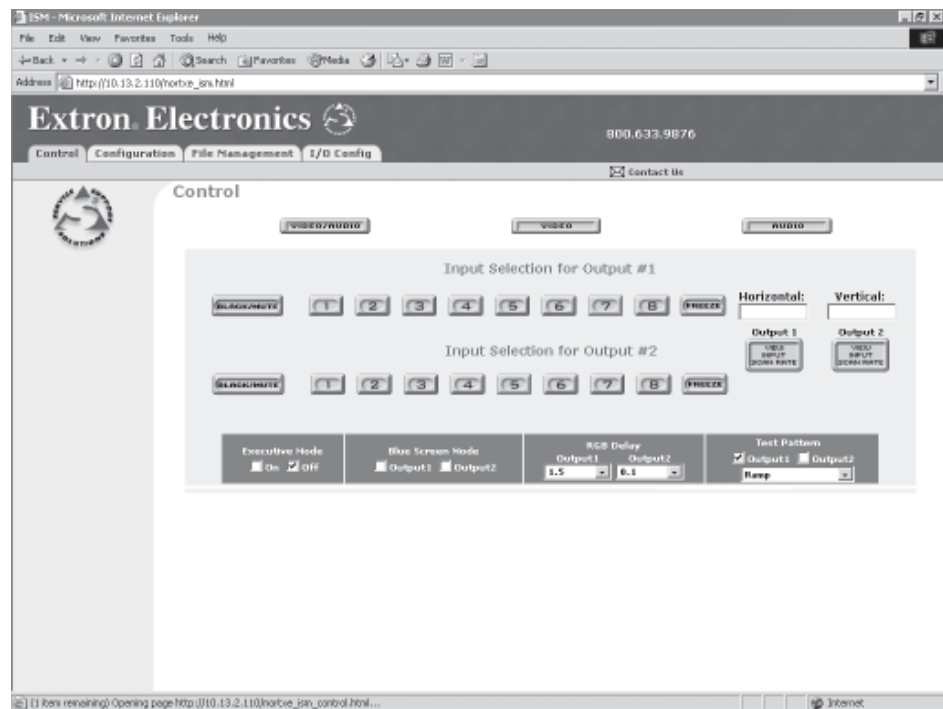

Figure 6-2 — Control page
- c. **If neither of the above conditions is true**, the switcher loads the factory-installed default startup page, "nortxe_index.html" (figure 6-2), also known as the Control page.
On the Control page (figure 6-2), you can select an input to either or both outputs. The Control page also provides facilities to check the frequency of an input and to mute outputs. Access the Control page by clicking the **Control** tab.